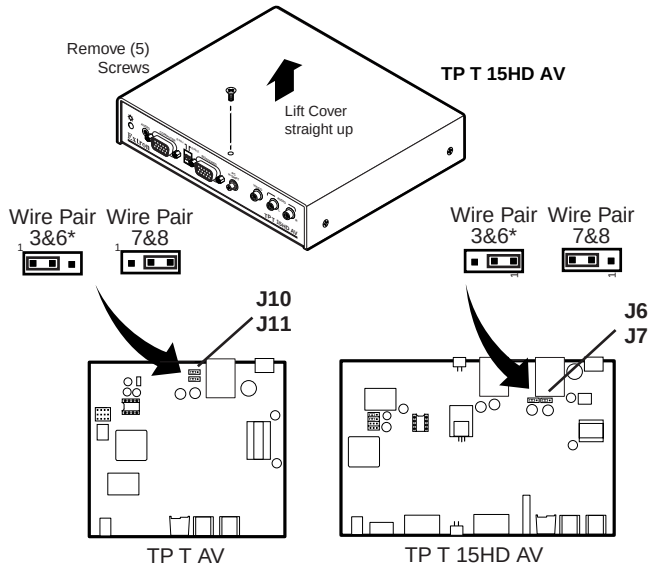

Figure 2-2 — Audio jumper configuration
1. Remove the two screws on each side and the screw on top of the cover (figure 2-2).
3. **TP T AV** — Locate J10 and J11 on the printed circuit board. See figure 2-2
- TP T 15HD AV** — Locate J6 and J7 on the printed circuit board. See figure 2-2